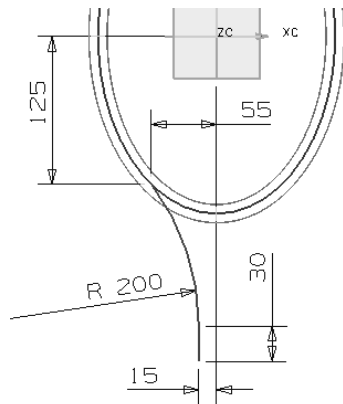

Figure 11-89 The dimensions for the guide curve of the sweep surface
- Select the newly created plane as the sketching plane and draw the guide curve, as shown in Figure 11-89.